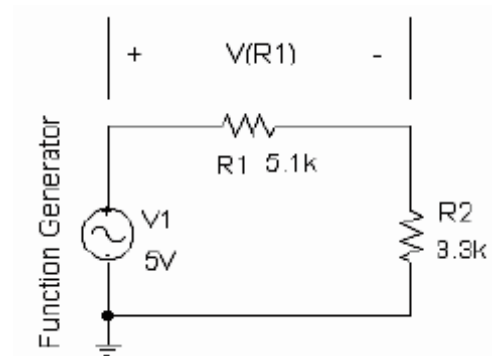

Figure 5. Circuit being used for measuring the voltages and time parameters generated by the function generator with the oscilloscope.
1. Build the circuit shown below in Figure 5.